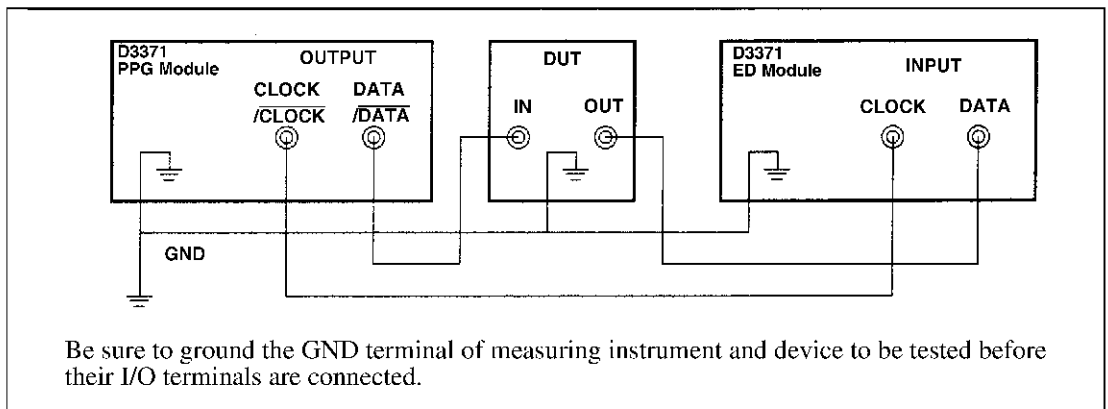

Figure 1-4 Grounding the D3371 and the Device under Test
5. Connect the ground terminal on the rear panel of the D3371 and the ground pin of the power plug. In addition, connect the ground to the same ground potential as that for the equipment connected to the I/O connectors (see Figure 1-4).